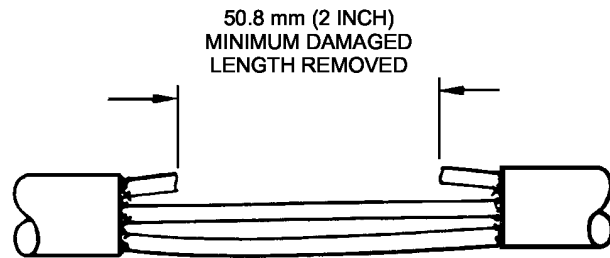

Figure 9. Wire with Damaged Portion Removed
h. Cut damaged wire or wires to remove any damaged portions. If damaged wire must be cut out, remove at least 2 inches total length. If damage is at a single point, damaged wire can be cut at the point of damage (Figure 9).